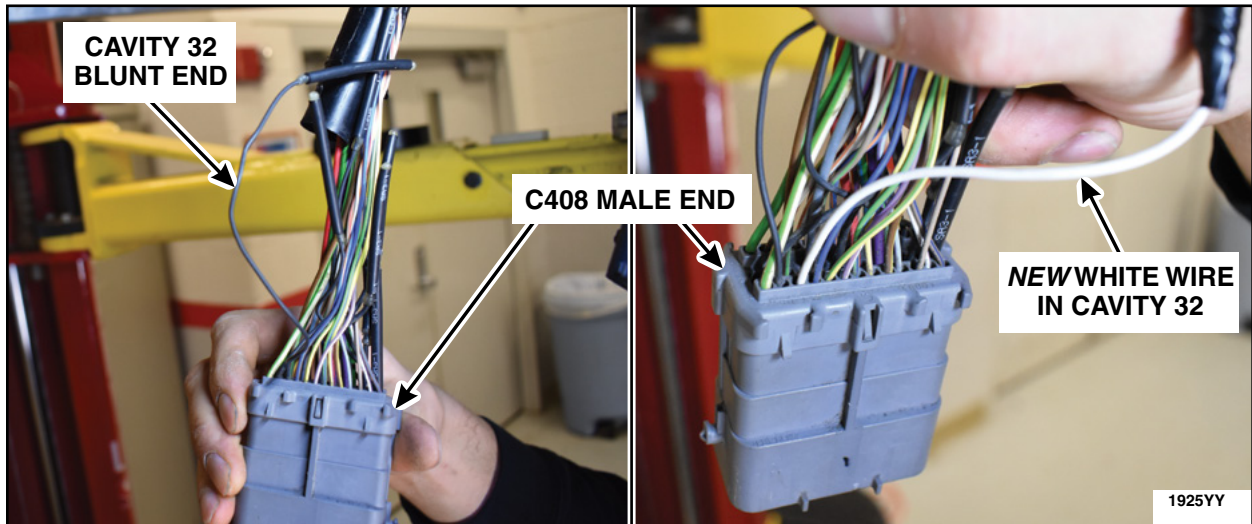

FIGURE 44
46. Remove the blunt end in cavity 32 of the C408 male end. Install the *new* white wire into cavity 32. See Figure 44.